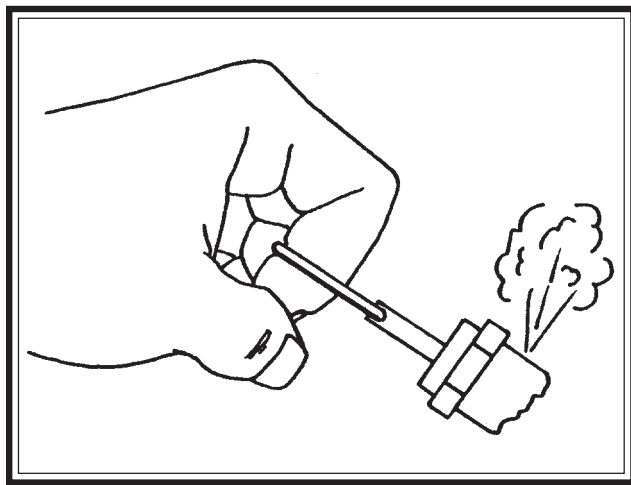

Fig. 3-7 Checking Pressure Relief Valves & Relieving System Pressure Pix 1160
Step 2) Tanks subjected to freezing temperatures may contain ice. Store the compressor in a heated area before attempting to drain moisture from the tanks. Reduce the air pressure in the tank to 30 PSIG by pulling the pressure relief valve ring (refer to **Fig. 3-7, Checking Pressure Relief Valves & Relieving System Pressure**).